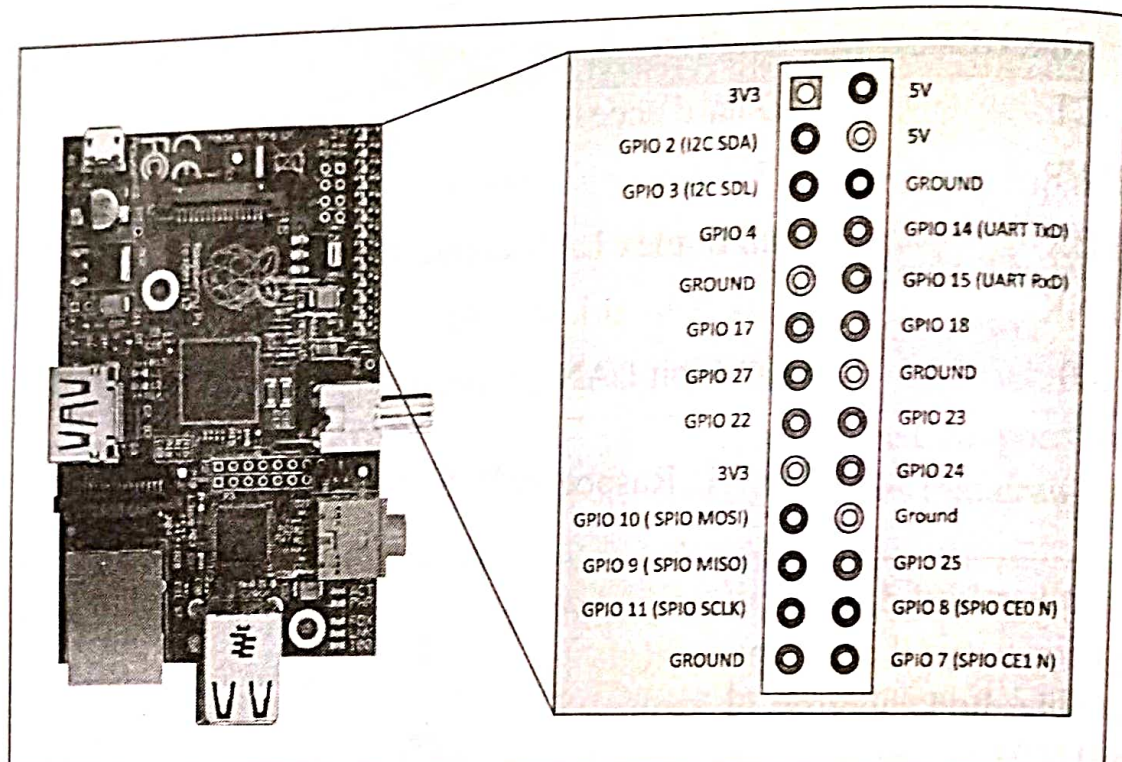

Figure 7.3: Raspberry Pi GPIO headers
- **GPIO Pins** : Raspberry Pi comes with a number of general purpose input/output pins. Figure 7.3 shows the Raspberry Pi GPIO headers. There are four types of pins on Raspberry Pi - true GPIO pins, I2C interface pins, SPI interface pins and serial Rx and Tx pins.
Raspberry Pi has serial, SPI and I2C interfaces for data transfer as shown in Figure 7.3.